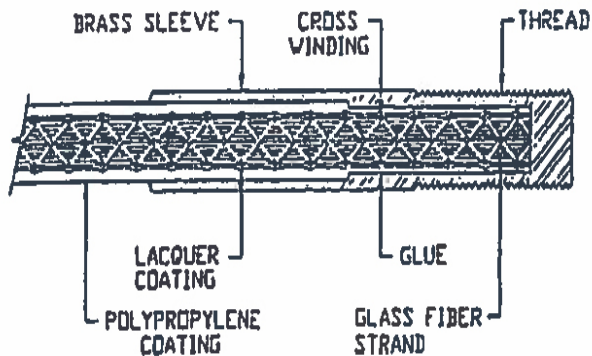

Figure 1: Duct rod composition
1.03 The duct rod material consists of 80% fiberglass and 20% resin covered by a yellow propylene jacket. See Figure 1 below.